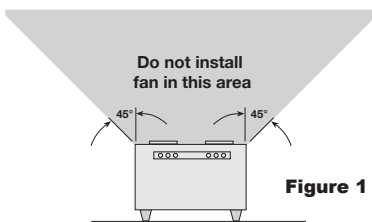

Figure 1
1. For best performance, choose a location with the shortest possible duct run and minimum number of elbows. Do not mount near cooking equipment, as shown in Fig. 1.